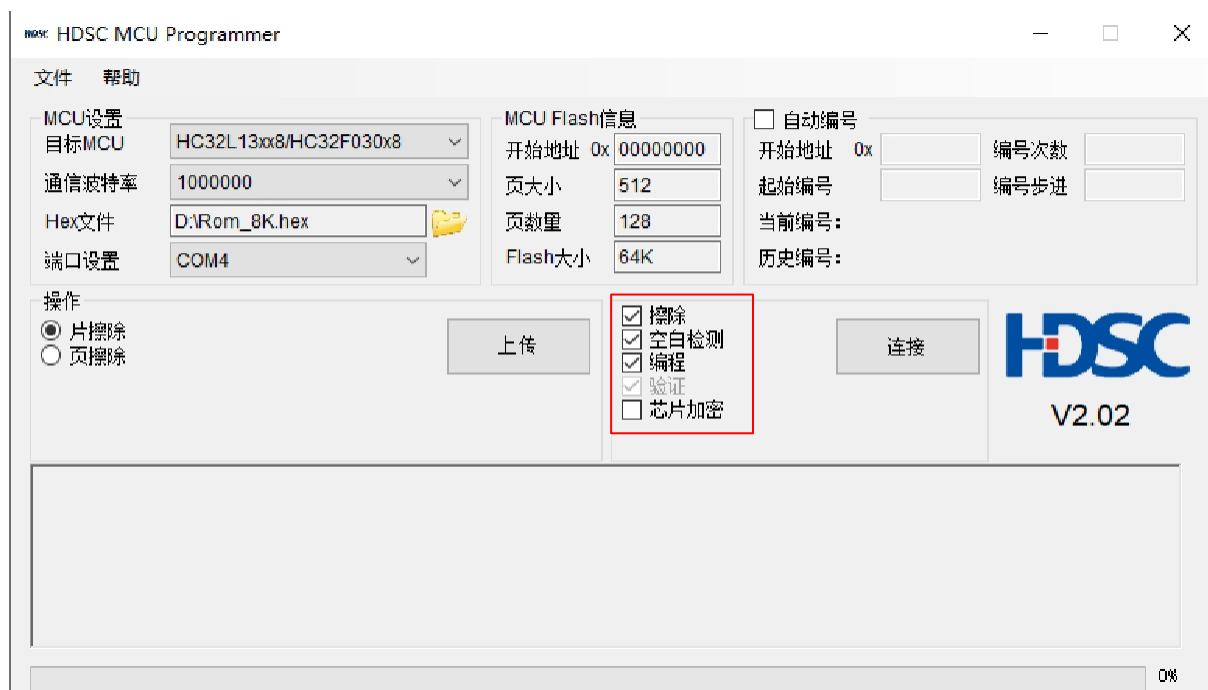

Figure 8 Selecting an operation
- 3) Select the desired action. For example, select the "Erase", "Blank Detection", "Program (Verify)" checkboxes. As Figure 8 Show.